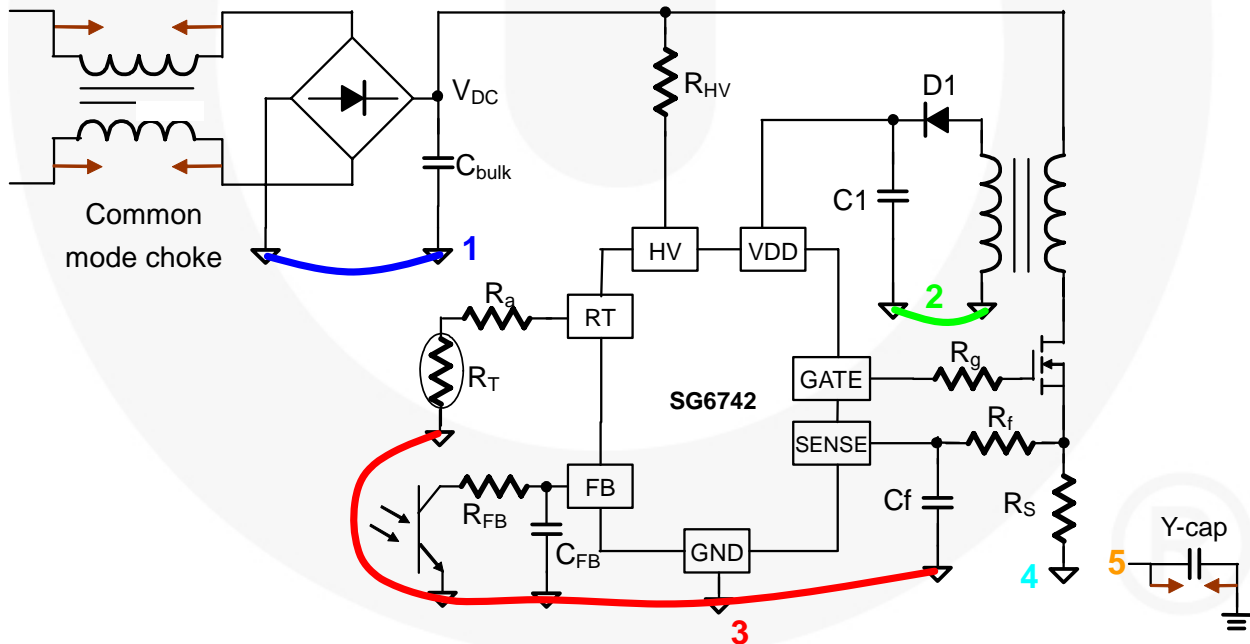

Figure 14. Layout Considerations
- The high-frequency current loop is found in the loop  $C_{\text{bulk}} - \text{Transformer} - \text{MOSFET} - R_s - C_{\text{bulk}}$  in Figure 14. The area enclosed by this current loop should be as small as possible. Keep the traces (especially 4→1) short, direct, and wide. High-voltage drain traces related to the MOSFET and RCD snubber should be kept far from control circuits to prevent unnecessary interference. If a heatsink is used for the MOSFET, grounding the heatsink is recommended.
- As indicated by 3 in Figure 14, the control circuits' ground should be connected first, then to other circuitry.
- As indicated by 2 in Figure 14, the area enclosed by the **transformer auxiliary winding,  $D_1$ , and  $C_1$**  should also be kept small. Place  $C_1$  close to the SG6742 for good decoupling.